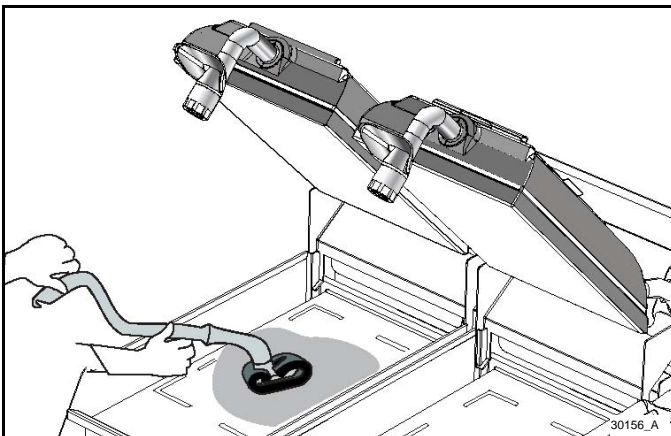

Figure-186
23. Scrub the lower cook surface and all areas using the Kay® grill cleaning pad holder with the pad. See Figure-186.